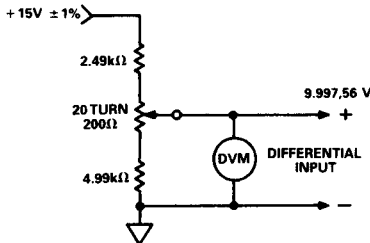

Figure 5. Input Connection for the R_{SPAN} Calibration
1. Apply a precise $10V - 2.44mV$ across the input of the AD368/AD369. A voltage divider as shown in Figure 5 can be employed; in conjunction with a precision voltmeter to verify an input of $9.997,56V$.